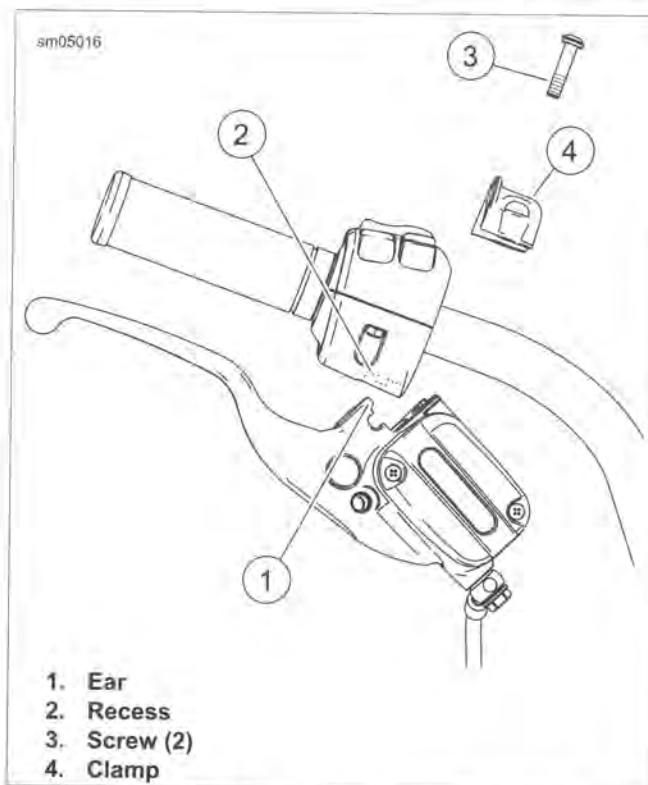
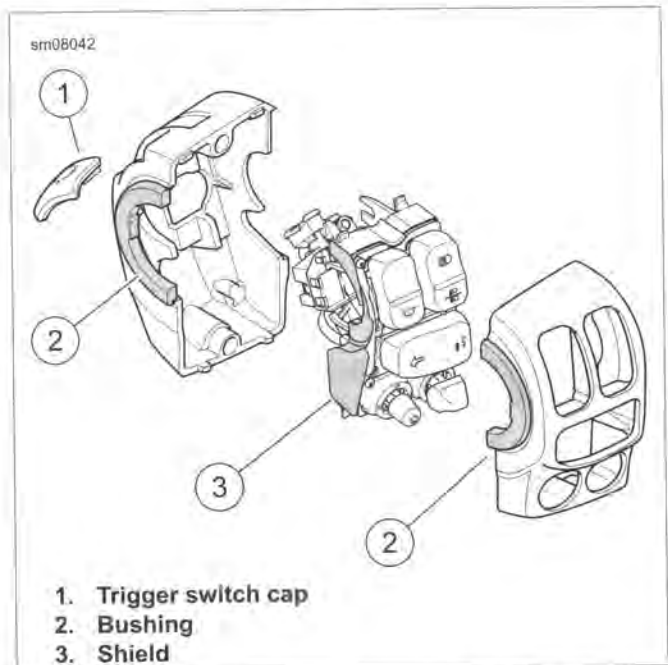
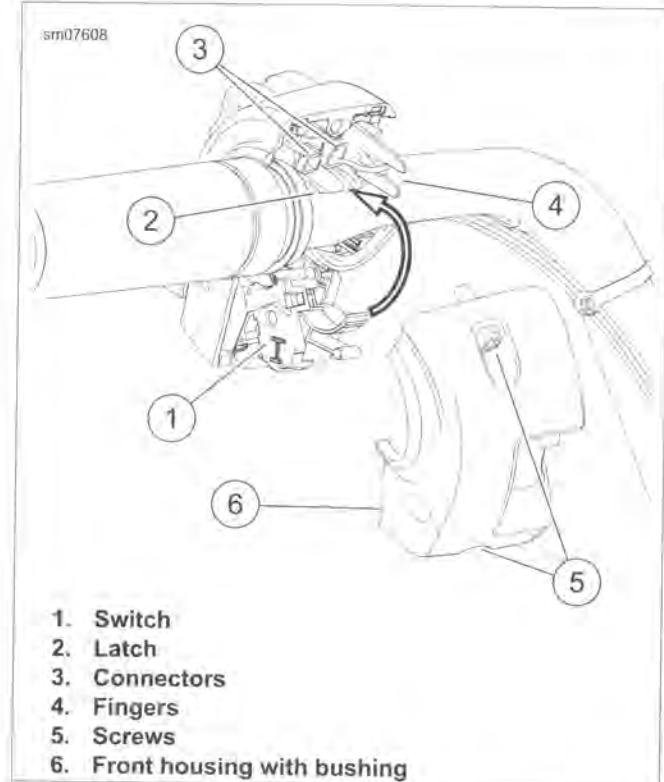

Figure 7-110. Hand Control Assembly (typical)
Figure 7-112. Switch Pack (typical): Left Side Shown
Figure 7-113. Switch Pack (typical)
1. See Figure 7-110. Remove screws (3) and clamp (4). Remove hand control assembly.
- a. See Figure 7-112. With a small screwdriver, carefully pry between trigger finger switch cap and switch plunger.
See Figure 7-113. The switch housing screws (5) are captive.
3. Loosen switch housing screws (5). Remove switch housings.
See Figure 7-113. The latches on connectors are fragile. Use care when disconnecting.
5. See Figure 7-113. Release switch latch (2) and rotate switch (1) down.
See Figure 7-112. Bushings (2) must be in place to provide proper switch function. If bushings are missing or damaged, replace switch housing.
2. See Figure 7-112. Verify that bushings (2) are in place on both switch housings.
3. See Figure 7-113. Mate electrical connectors (3). Route harness through fingers (4) and into channel in switch module.
See Figure 7-112. Shield (3) must be in place to provide proper switch function. If shield becomes loose during disassembly or assembly, hold shield in place while installing switch pack and inner switch housing. Replace the switch pack if the shield is missing or deformed.
4. See Figure 7-113. Place module on handlebar. Rotate switch (1) up and snap latch (2) into place.
6. Install switch housings. Tighten screws (5) until snug.
7. See Figure 7-110. Install brake control assembly. Position for rider comfort.
- a. Engage ear (1) in recess (2).
- c. Install clamp (4) and screws (3).
9. Tighten brake control clamp screws (3) to 72-108 in-lbs (8.1-12.2 Nm). Again verify hand grip rotation and slight end play.
3. See Figure 7-113. Mate electrical connectors (3). Route harness through fingers (4) and into channel in switch pack.
7. See Figure 7-110. Install clutch control assembly. Position for rider comfort.
10. See Figure 7-112. Slide trigger finger switch cap (1) until it clicks into place.